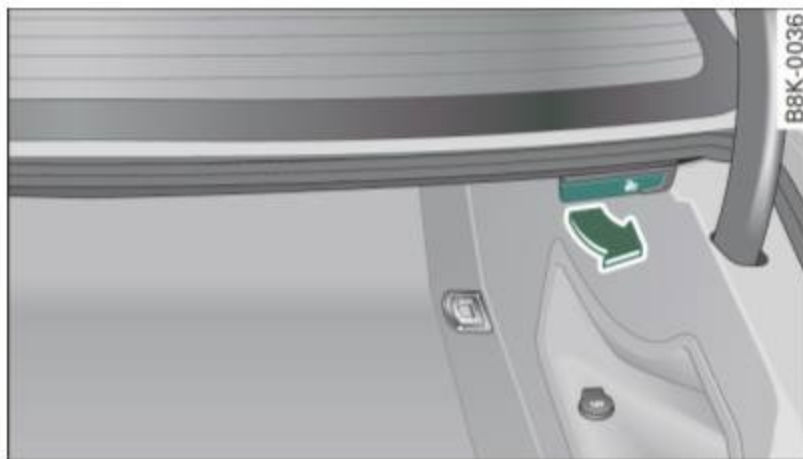
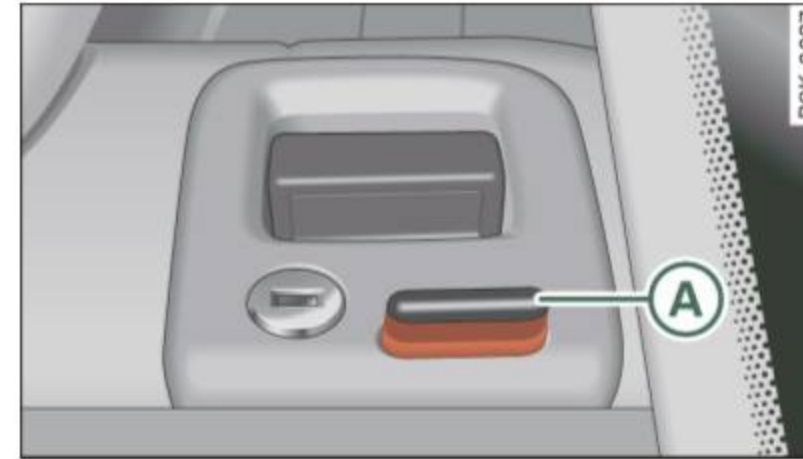

Fig. 91 Release lever in cargo area
Fig. 92 Safety knob
- When you pull the release lever ⇒ fig. 91 in the direction of the arrow, the safety knob (A) ⇒ fig. 92 pops out far enough for the red marking on knob to be visible.
- Raise the seatback until it is securely latched ⇒ ⚠. When you can no longer see the red mark on the safety knob (A) ⇒ fig. 92, the seat is latched.